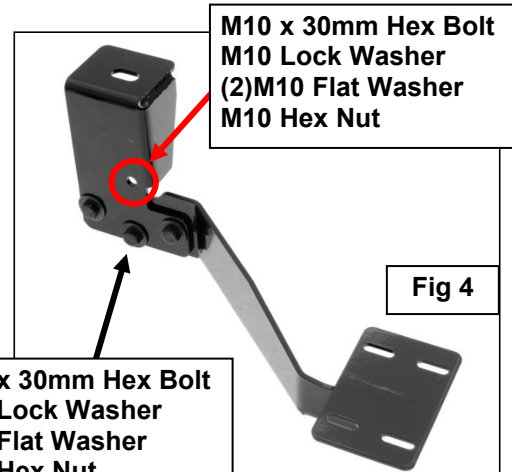

Fig 4
7. Attach the opposite end of the Support Bracket to the mounting hole on the side of the front Upper Mounting Bracket using the included (1) 10mm x 30mm Hex Bolt, (2) 10mm Flat Washer, (1) 10mm Lock Washer and (1) 10mm Hex Nut, **(Figure 4)**. Do not tighten hardware at this time.
8. Select the passenger Front Lower Bracket and attach the bracket to the passenger Front Upper Bracket with (3) 10mmx30 Hex bolt, (6) 10mm Flat Washer, (3) 10mm Lock Washer and (3) 10mm Hex Nut, **(Figure 4)**. Snug but do not tighten hardware at this time.